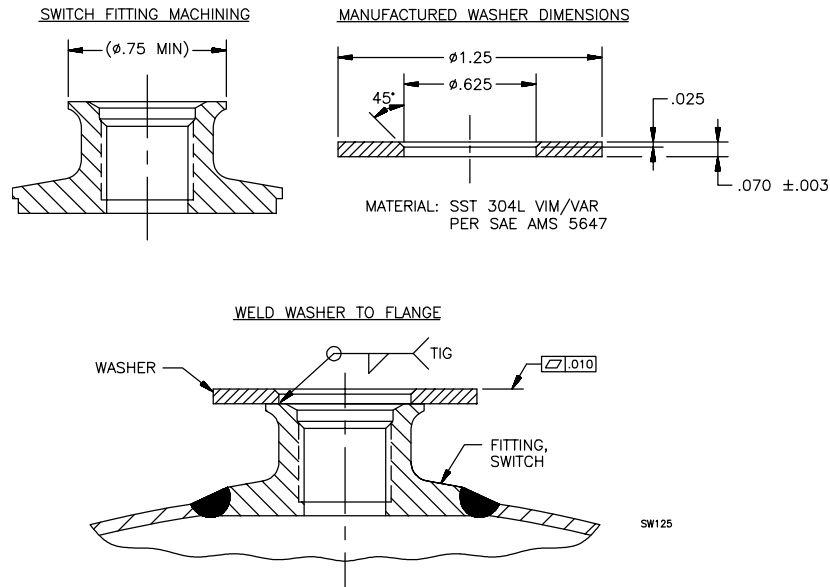

Figure 601. Repair of Pressure Gauge Fitting
- (4) Machine the flange of the fitting to the tolerances given in Figure 601 with a vertical milling machine and a fly cutter.
- (5) After you machine the flange, remove the cutting oil from the external surface of the container with alcohol.
- (6) Make a new flange washer with the dimensions and materials given in Figure 601.
- (7) Put the new "washer" flange on the machined pressure-gauge fitting with the chamfered side up. Make sure that the washer is in the center of the flange.
- (8) Use a Tungsten Inert Gas (TIG) welder, set to 25 to 35 amperes maximum, to attach (tack weld) the washer to the flange in three (3) places. See Figure 601.